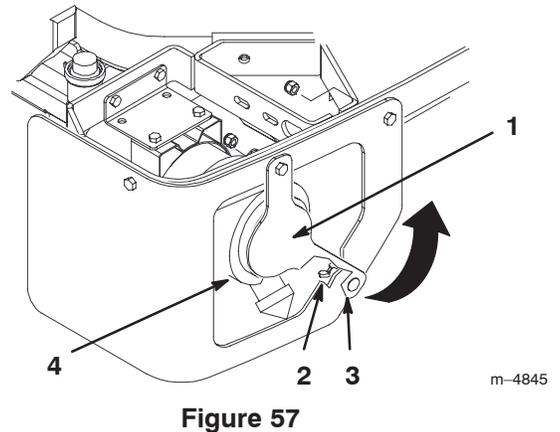

Figure 57
- Remove the wing nut from the bolt in the air filter guard. Rotate guard to gain access to filter (Fig. 57).